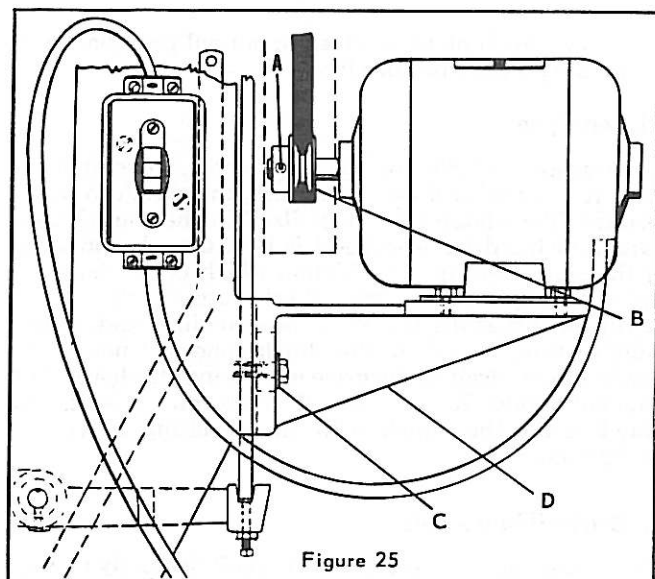

Figure 25
T. Motor And V-Belt (Figure 25)